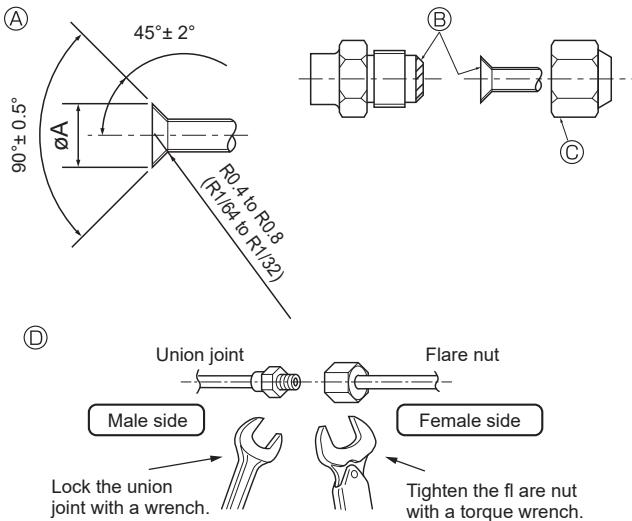

Fig. 4-1
4.2. Connecting pipes (Fig. 4-1)
- Flare the ends of the refrigerant pipes. ④
- Apply refrigerating machine oil over the entire flare seat surface. ⑤
- Use the flare nuts as follows. ⑥
- Use 2 wrenches to tighten piping connections. ⑦
⑦ Flare nut tightening torque